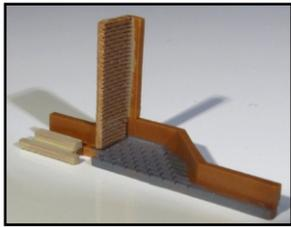

Figure 10
**MAIN ENTRANCE.** The entrance consists of two cast parts and one laser-cut window and door part. Begin by painting the parts as desired; the brick wall should be painted to match the building face. After they're dry, bond the wall part to the entrance floor as shown in Figure 10.